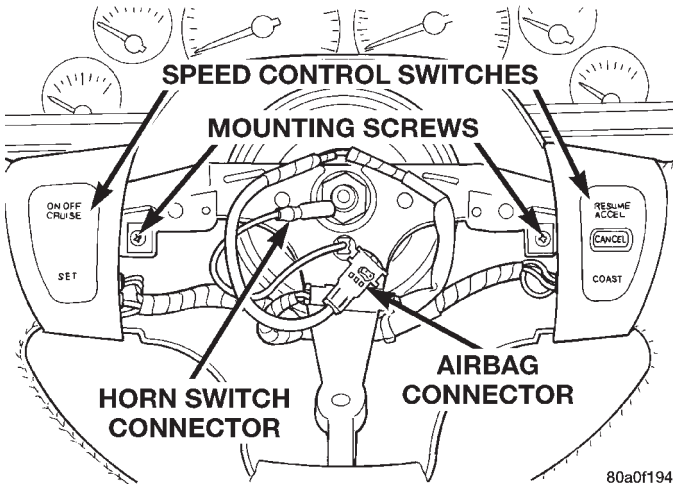

Fig. 6 Speed Control Switches Remove/Install
(3) Unplug the airbag and horn switch wiring connectors and remove the airbag module from the steering wheel.
(4) Remove the screws securing the speed control switches to the steering wheel, and lower the switches from the steering wheel spokes (Fig. 6).